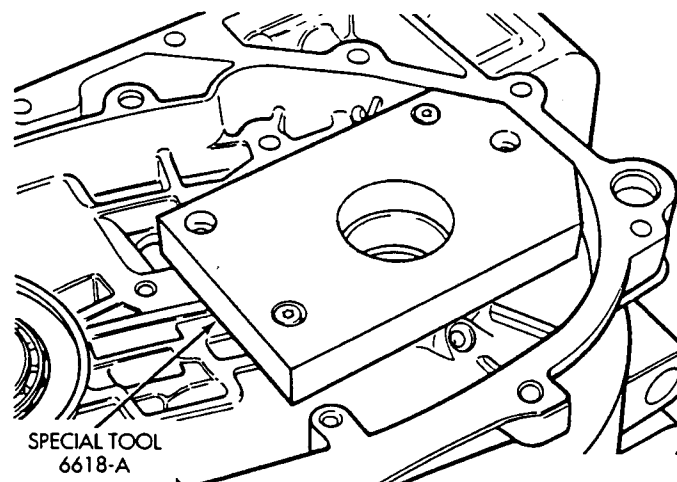

Fig. 3 Special Tool Installed
(3) Install special tool 6618A (Fig. 3). Lightly tighten retaining screws. Screws should be below the plate surface, but do not snug screws.